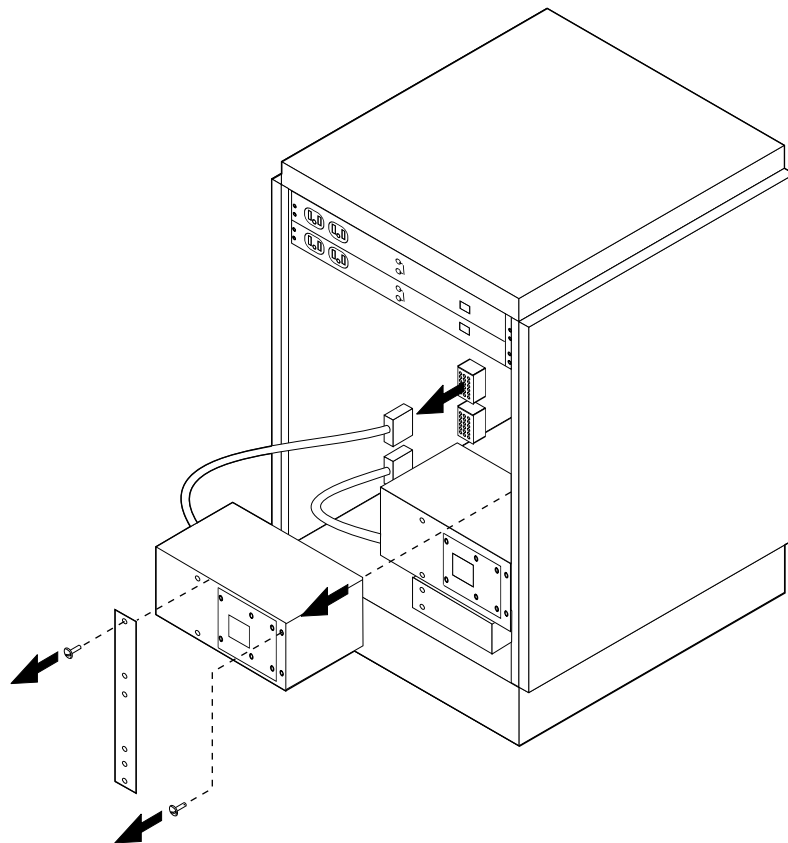

Figure 21. Removing PS1
- 9** Remove the two screws from the rack mount (right side) of the power supply hanger brackets. If PS1 (top) is being removed, it will slide out with no other operations as shown in Figure 21.